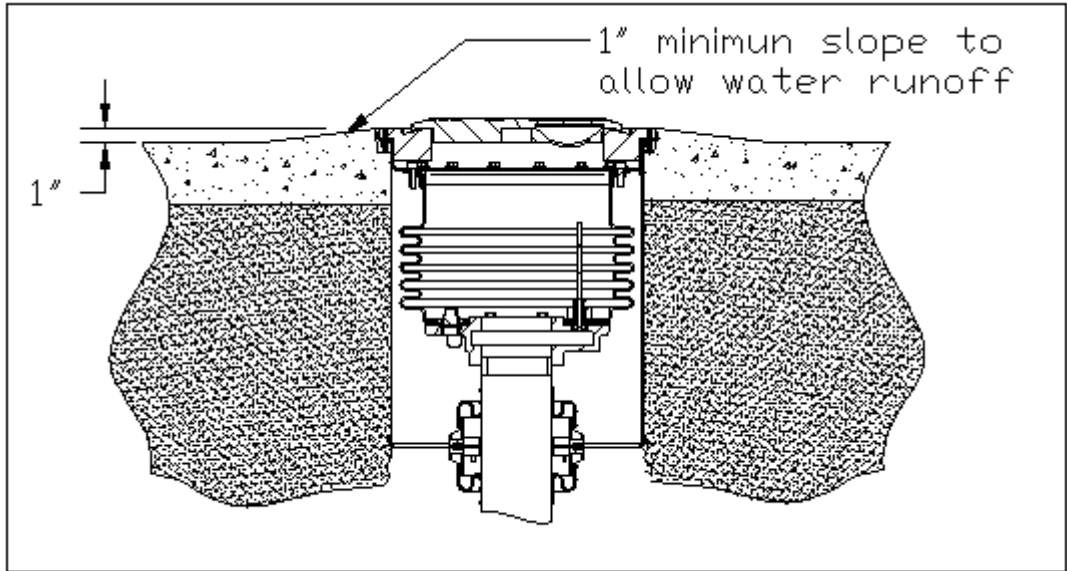

Figure 7
13. NOTE: Do not stand on the medium until the concrete has set. It is recommended that the paved contours around the containment covers be adequately sloped to allow a flow of water from the cover away from area of the containment. 1" minimum slope is recommended for the runoff. (See figure 7)